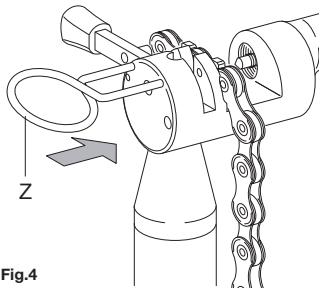

Fig.4
- clamp the link with the special clamping device (Z) (**Fig. 4**);